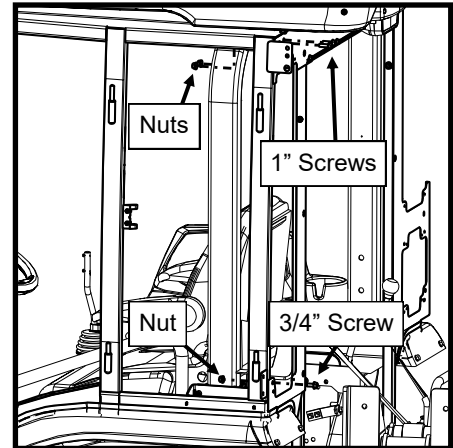

Figure 5.5: Side Frame to Rear Panel Bolts
- 5.5 Install two 1" long bolts and two nuts through the rear panel, upper rear mount, and sideframe. (see Figure 5.5)
- 5.6 Install a 3/4" long bolt and nut at the bottom of the rear panel. Install in the uppermost hole. (see Figure 5.5)